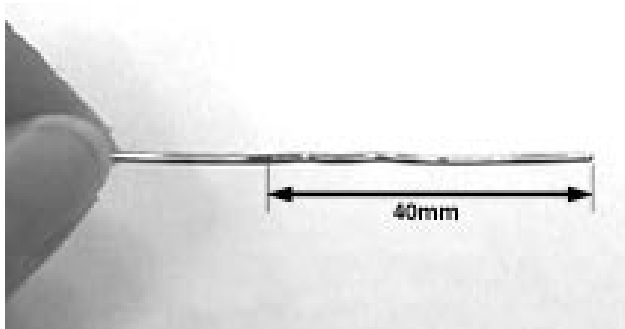

Figure 1
- 1) Loosen 6 screws and remove the Cover Top (pos 255) by sliding it out towards the rear before lifting up.
- 2) Loosen 2 screws each to remove the Panel Left (pos 253) and Panel Right (pos 254). The Panels are removed by sliding it towards the rear and outwards.
- 3) Take a paper clip or any stiff wire diameter of 1mm-1.5mm and make a marking about 40mm from the tip as shown in Figure 1.